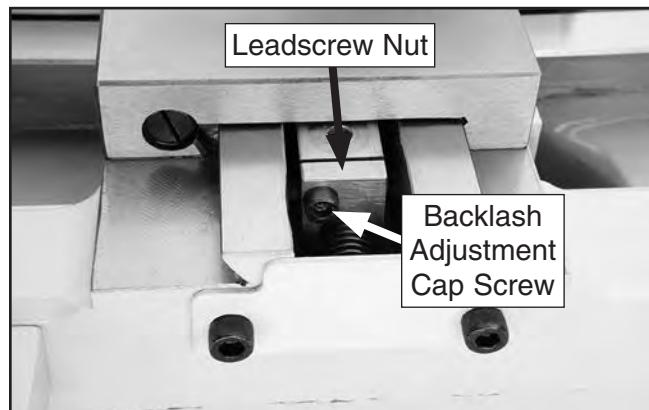

Figure 116. Leadscrew nut location and adjustment.
3. Rotate cross slide handle clockwise to feed leadscrew nut out from under cross slide, as shown in **Figure 116**.
4. Tighten backlash adjustment cap screw shown in **Figure 116** in small increments.